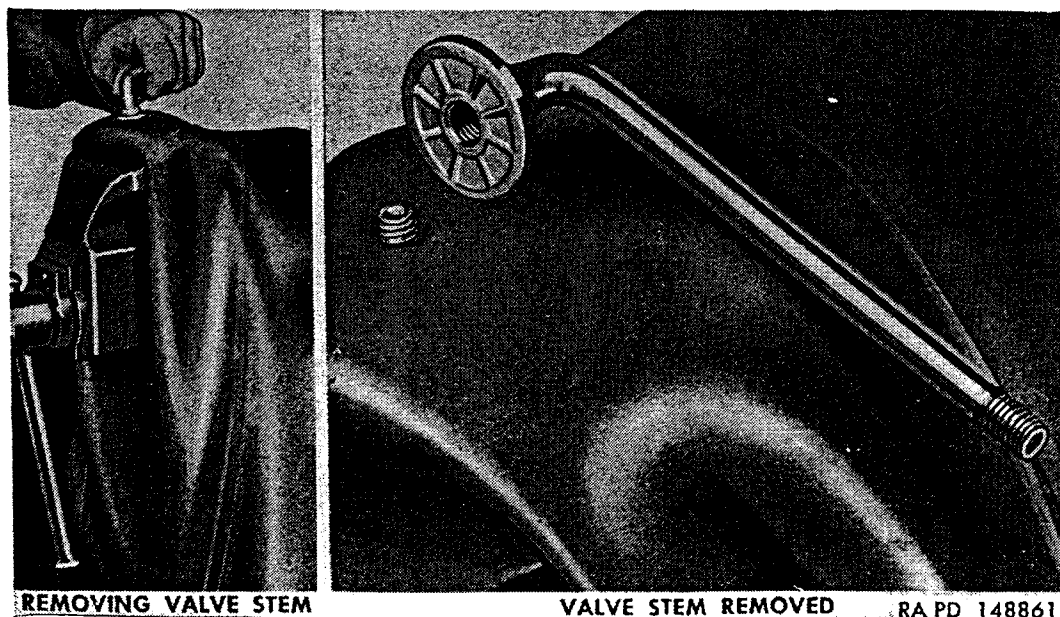

Figure 264. Valve stem replacement.
d. *Valve Stem Replacement* (fig. 264). The valve stem is threaded onto an adapter which is vulcanized into the tube. This permits replacing the valve stem in the event it becomes broken or damaged and the tube is still serviceable. A new valve stem, or one removed from a damaged tube, can be installed.
- (1) To remove valve stem, position tube over vise as shown in figure 264; place foot inside tube at bottom and press down to stretch tube over vise. Turn valve stem counterclockwise to remove.